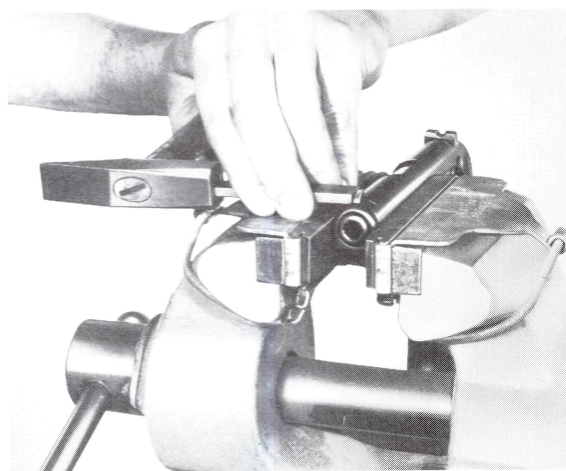

Fig. 52
- Using a drift, drive out the front sight from right to left. (Fig. 52).